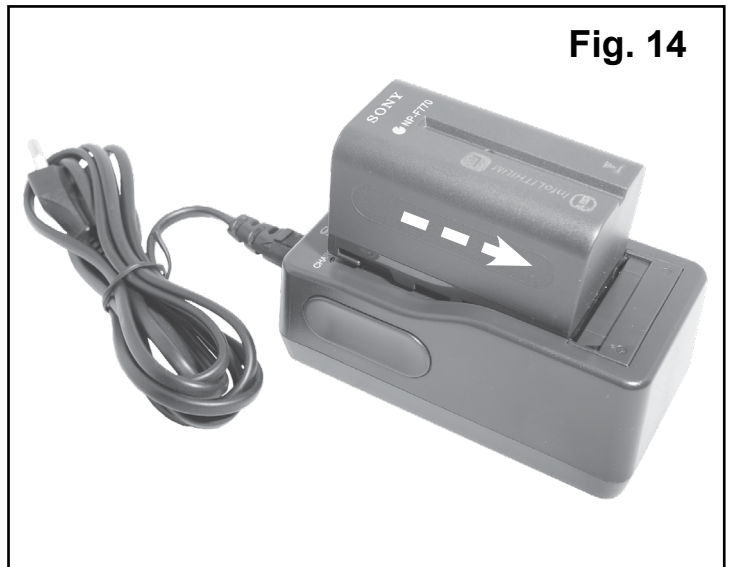

Fig. 14
2. Insert discharged battery into the charger (Fig. 14,15).